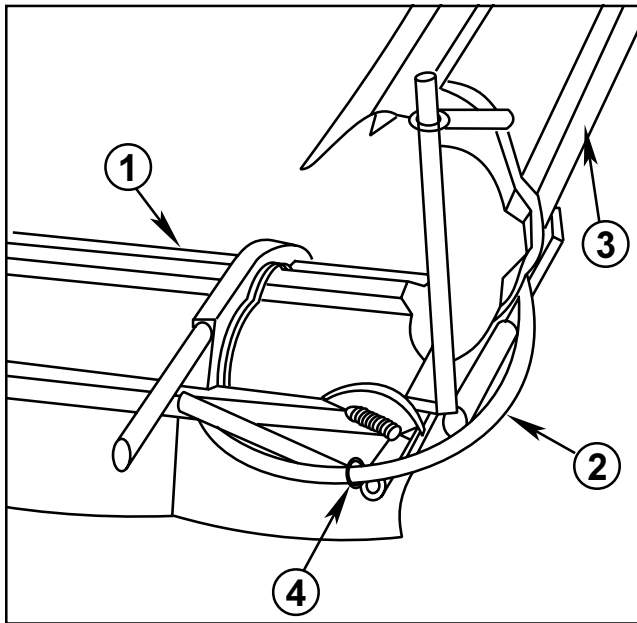
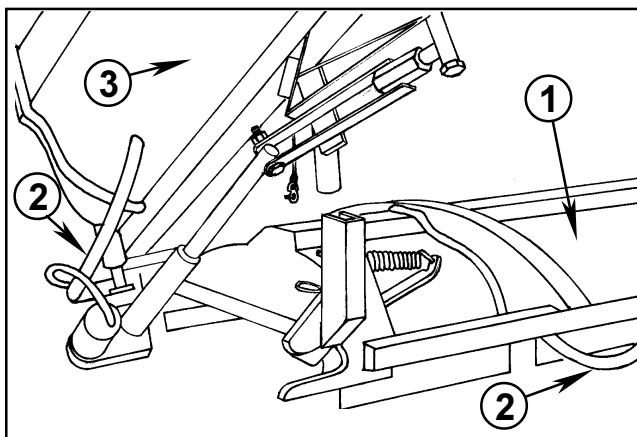

FIG. 9
FIG. 10
2. Route Right and Left Boom Feed Hoses as shown in FIG. 9 and FIG. 10 through retainer ring at the Boom Extension Pivot Joint and through Center Boom section ensuring that there is adequate hose length at the Boom Extension Pivot Joint so that the hose is not stretched.